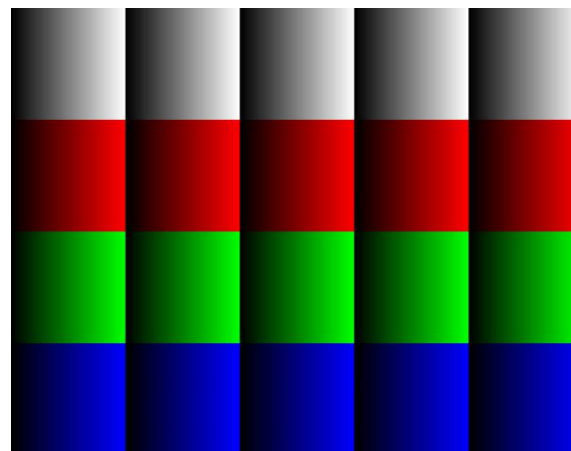

Figure 19 – Horizontal color pattern
1. Horizontal color ramp – horizontal gradient of several color stripes, as shown in Figure 19.